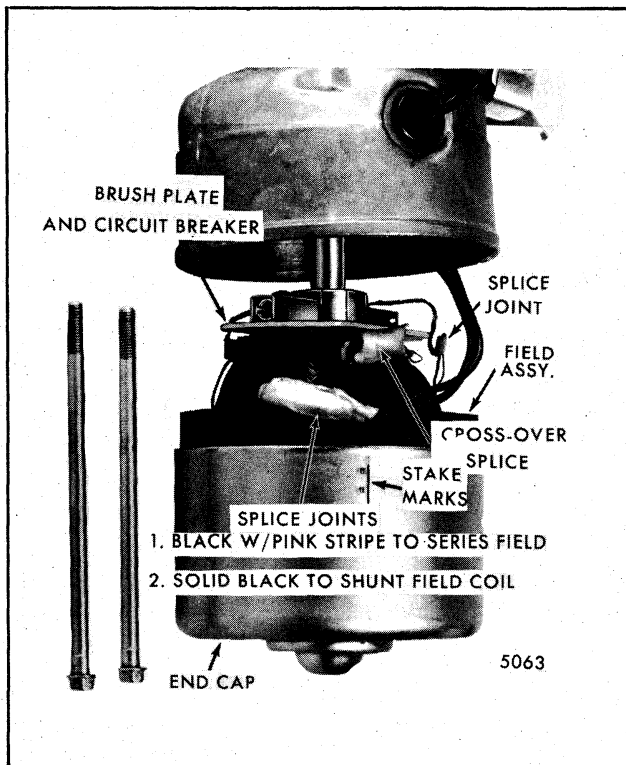

Fig. 2-39-Field and End Cap Assembly
3. Feed exposed excess length of motor leads through the casting grommet and carefully back the case and field assembly plus the armature away from the casting (Fig. 2-39).